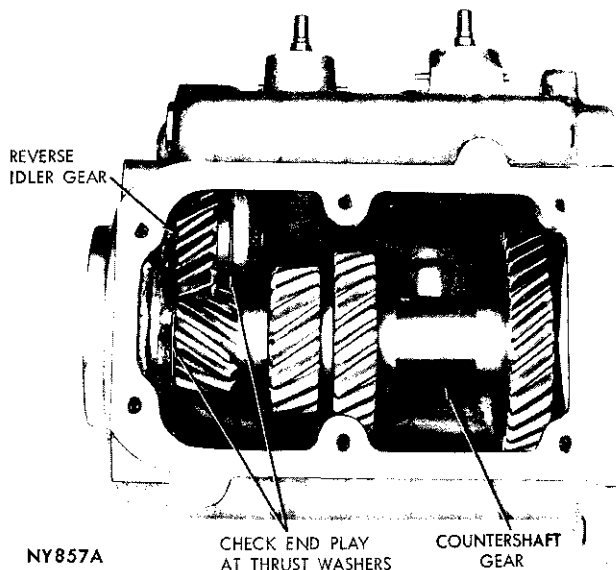

Fig. 24—Countershaft and Reverse Idler Gears
(1) Using a feeler gauge measure the end play of the countershaft gear (Fig. 24). The end play should be from .0045 to .028 inch. This measurement will determine if new thrust washers are to be installed at reassembly.
(2) Using the countershaft bearing arbor Tool C-3834, drive the countershaft toward the rear of the case until the small key can be removed from the countershaft.
(3) Drive the countershaft the remaining way out of the case, keeping the arbor tight against the end